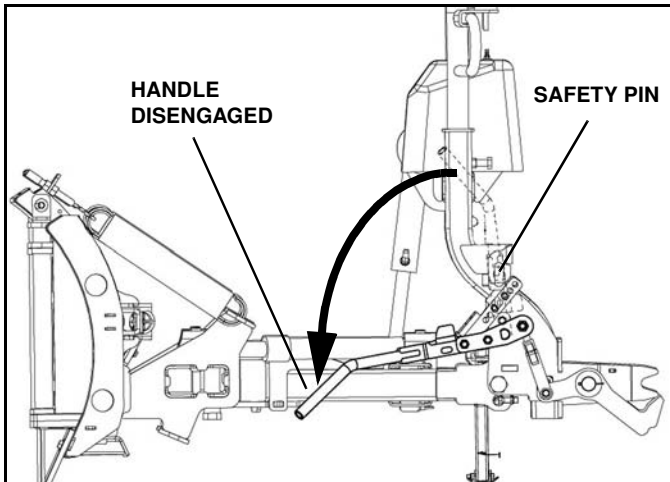

Figure 1-51
7. Pull safety pin on engagement handle to release and lower handle to disengage plow from truck. (See Figure 1-51).